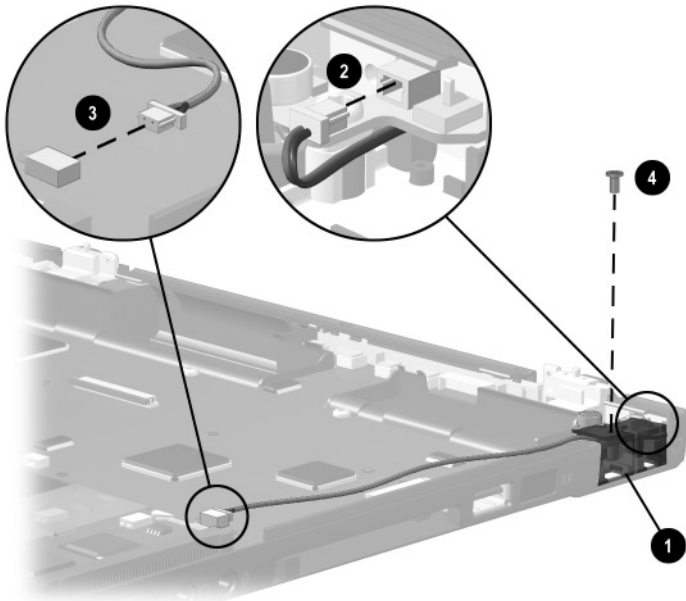

Figure 5-28. Removing the Modem Cable on Evo Notebook N400c Models
12. Remove the RJ45/RJ11 connector module ❶ from the base enclosure (Figure 5-28).
13. Disconnect the microphone cable ❷ from the display lid switch board.
14. Disconnect the microphone cable ❸ from the system board.
15. Remove the PM2.0 \times 4.0 screw ❹ that secures the display lid switch board to the base enclosure.